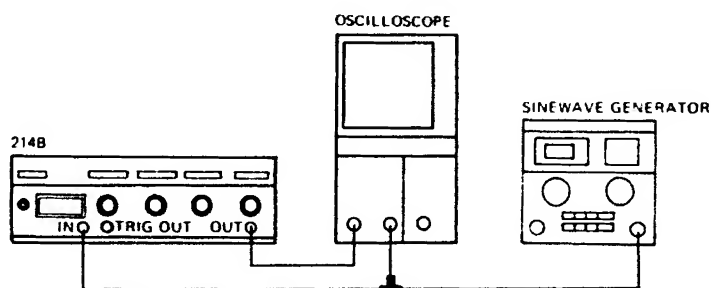

Figure 5-6
1. Connect equipment as shown in Figure 5-6 and set 214B controls as follows: